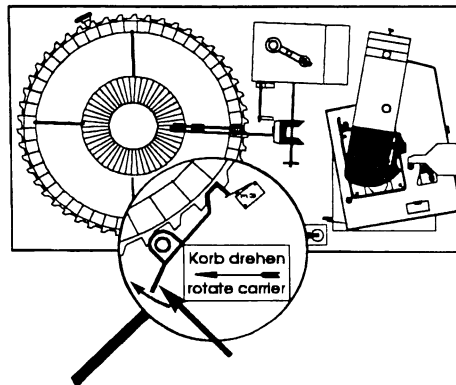

Abb. 4
Insert up to 50 or 100 CDs, depending on the compartments in the carrier. Start with 01. The "Label" must show always to the left, towards the next lowest number. To achieve the optimum position for loading, press in steps the lever "rotate carrier" ("Korb drehen"). (Fig. 4). If less than 50 (100) discs are used, the number of discs used has to be programmed in the service program service level 1, button 5 (ref. to chap. 2.8, page 8).